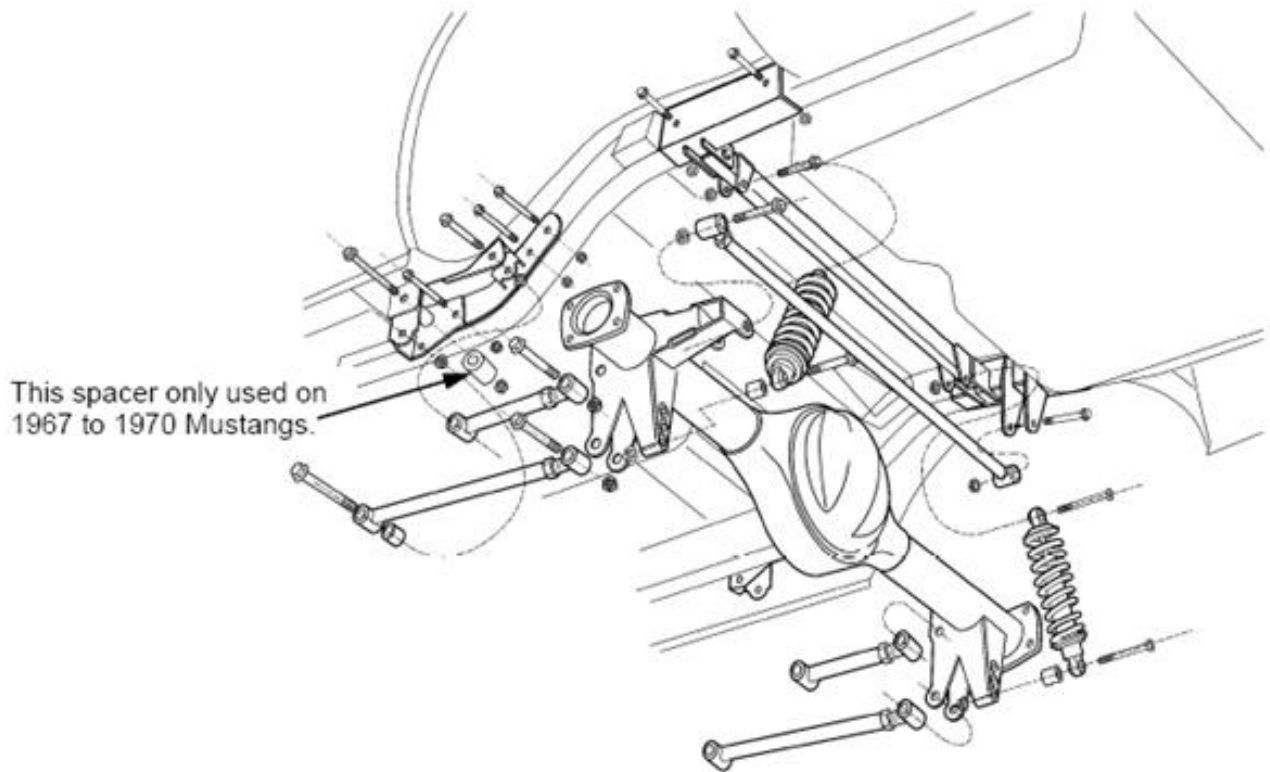

Figure 6- Upper & Lower Links, & Panhard Install
- 3.) Install the front link brackets next. They are inserted using the front leaf spring bolt hole to the inside of the front factory frame rails, see **Figure 3**. Drill 1/2" holes through the factory frame rails and bolt the sides of the front mounts using the reinforcement plates in the inner side of the rails. See **Figure 3**. For 67-70 models only, make sure to install the 1-3/4" x 1-1/4" spacer through the large hole into the inside of the factory frame rail. Secure with 1/2" bolt. See **Figure 6**.
- 5.) Install the link bars with the adjusters to the rear into the mounts in the front frame brackets. Position the rear axle housing in place and install the bars into the brackets on the housing. Use the 5/8-18 bolts and nuts included. Assemble the coil springs onto the shock assemblies and install them into the upper mounts using the 5/8-18 x 2-3/4" bolts and nuts, and onto the housing using the 5/8-11 x 7" bolts, spacers and nuts supplied. Now install the Panhard Bar using the 1/2-13 bolts and nuts supplied. Adjust the Panhard Bar to center the housing. Adjust the link bars. The upper bars will position the housing, and the lower ones will set the pinion angle. See **Figure 6**. After verifying the correct installation, fully weld in the shock mount crossmember and panhard bracket.